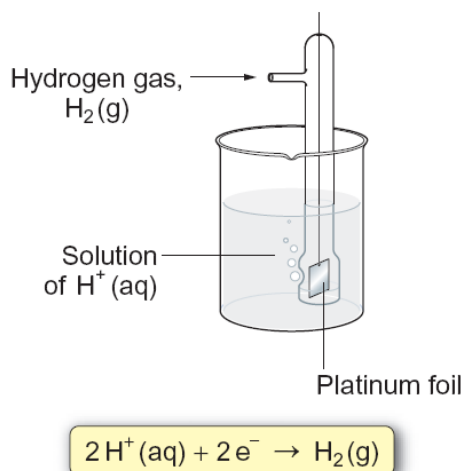

Figure 17.8 Hydrogen electrode.
- The standard hydrogen electrode is a half cell in which hydrogen gas is bubbled over a platinum foil immersed in a solution of H^+ (aq) (see Figure 17.8). It is assigned a potential of $E^\ominus = 0.00 \text{ V}$ under standard conditions of 298.15 K (25 °C), hydrogen gas pressure of 1.00 bar, and H^+ (aq) activity = 1.